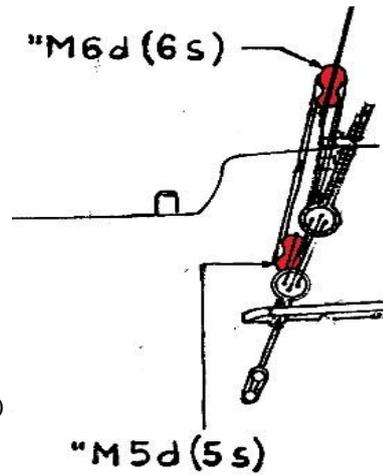

Figure 7: Foremast Channel
**"M" 5d (5s)** paired format on *foremast* (Fig. 7)
**"M" 6d (6s)** paired format on *foremast* (Fig. 7)